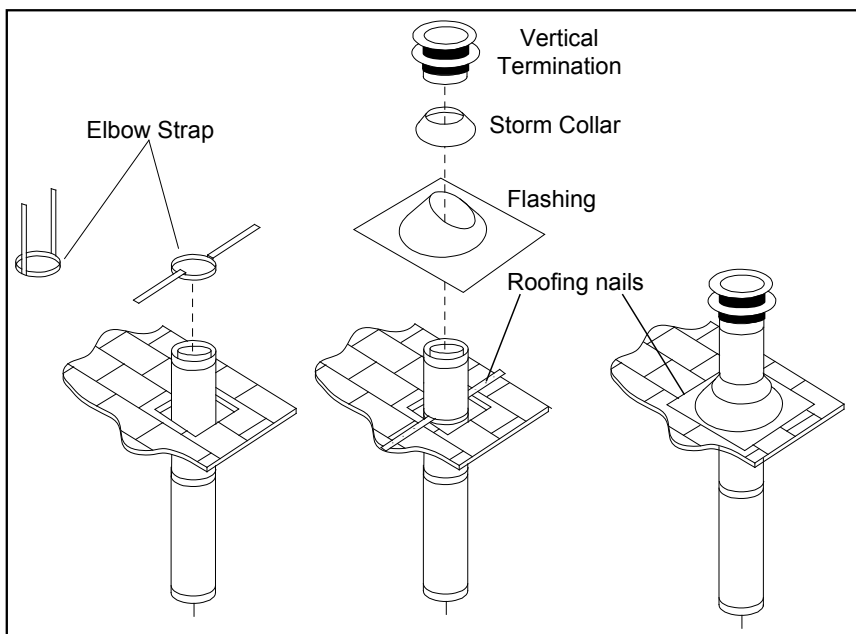

Figure 26. Vertical Vent Termination
- STEP 6.** Once the pipe sections have been joined, and run up through the hole in the roof, slip an elbow strap over the exposed sections, bend the support straps outwards, and push the elbow strap down to the roof level, as shown in Figure 26. Tighten the clamp around the pipe section. Use a level to make sure the pipe is truly vertical. With roofing nails, secure the support straps to the roof. Seal the nails holes heads with non-hardening mastic. Trim the excess length of the support straps that extend out beyond the edge of the flashing.
- STEP 9.** Slip the storm collar over the pipe, and push it down to the top of the roof flashing as shown in Figure 26. Use the non-hardening sealant around the joint between the pipe and the storm collar.